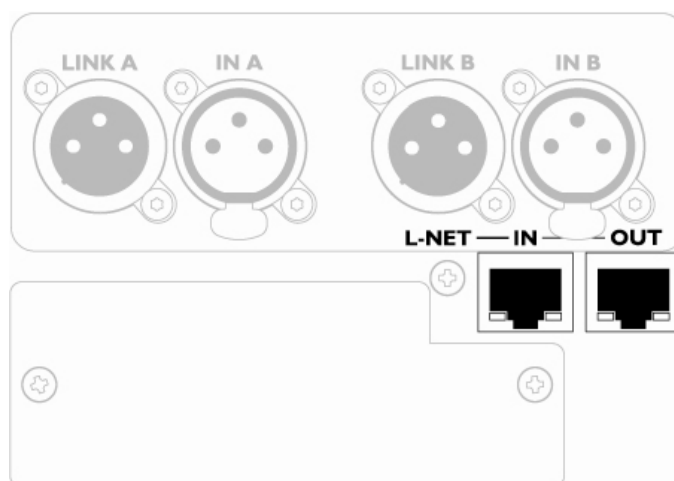

Figure 4: L-NET IN and OUT connector sockets located on a Unit's rear panel
- ✎ Connect the PC to a Unit by plugging one cable side into the RJ45 connector socket of the PC Ethernet card and the other cable side into the Unit's **L-NET IN** connector socket (located on the rear panel: see Figure 4).
- ✎ Connect a first Unit to a second one by plugging one cable side in the first Unit's **L-NET OUT** connector socket and the other cable side in the second Unit's **L-NET IN** connector socket (see Figure 4).